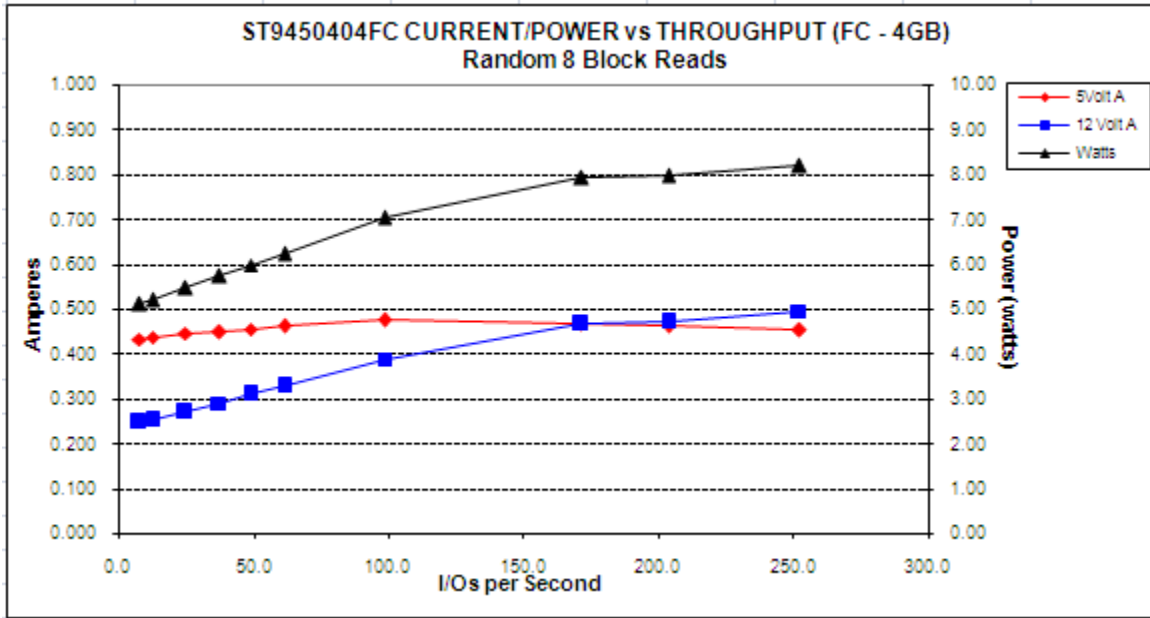

Figure 4. ST9450404FC DC current and power vs. input/output operations per second
- [4] See +12V current profile in Figure 4.